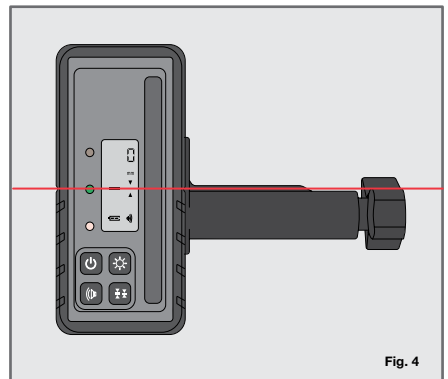

Fig. 4
- The direction arrows or level line on the LCD screen will indicate the position of the laser beam. A digital measurement of either how far up or down the detector is from the laser line will also be displayed (Fig. 2 & 3). The detector will emit a constant beep once the level position has been located (Fig. 4).